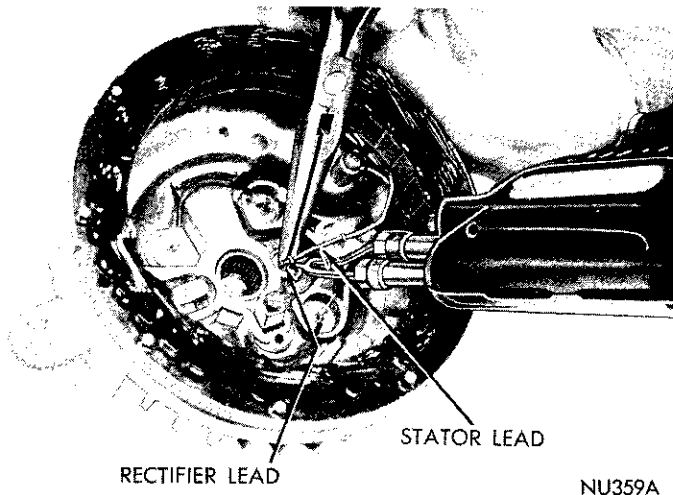
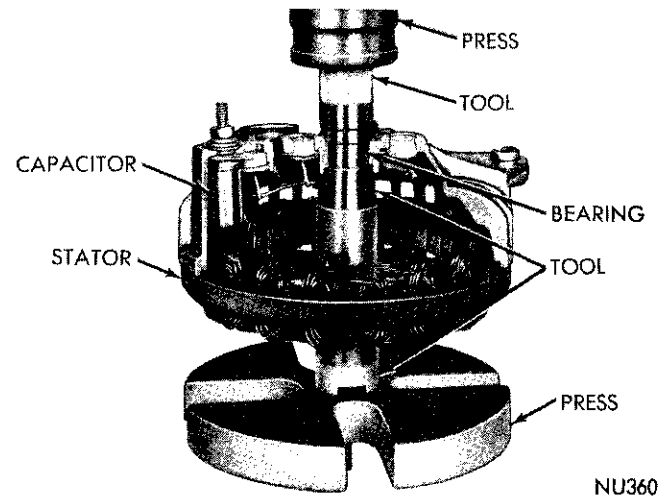
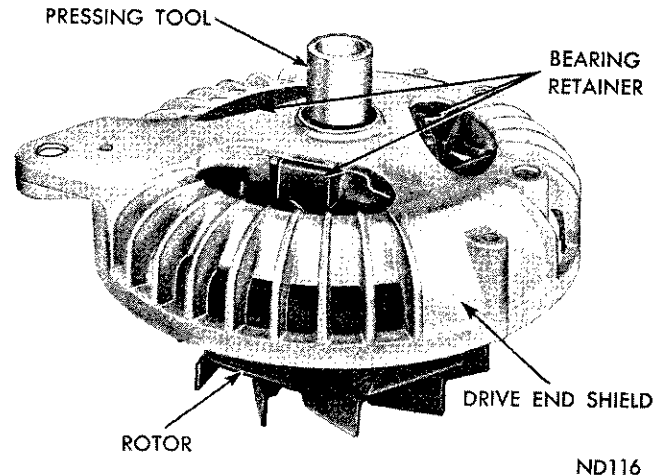

Fig. 29—Soldering Rectifier and Stator Leads
Fig. 30—Installing Rectifier End Shield Bearing
Fig. 31—Installing Drive End Shield Bearing
(4) Clean the leads and mate stator lead with rectifier wire and bend the loop snugly around stator lead to provide a good electrical and mechanical connection. Solder wires with resin core solder. Hold rectifier lead wire with pliers just below the joint while soldering (Fig. 29). Pliers will absorb heat from the soldering operation and protect rectifier. **After soldering, quickly cool soldered connection; touch a dampened cloth against it. This will aid in forming a solid joint.**
(5) After soldering, stator leads must be pushed down into the slots cast into the end shield and cemented with Cement Part Number 2299314 or equivalent to protect the leads against possible interference with the rotor fans. Test each replacement rectifier to make certain rectifier was not damaged by the soldering or pressing operations.
(6) Support end shield on Tool C-3925 so that notches in the support tool will clear the raised section of the heat sink and press the bearing into position with Tool SP-3381 (Fig. 30), until bottomed on support tool. **New bearings are pre-lubricated, additional lubrication is not required.**
(7) Insert drive end bearing in drive end shield and install bearing retainer plate to hold bearing in place.
(8) Position bearing and drive end shield on rotor shaft and, while supporting base of rotor shaft, press bearing and shield into position on rotor shaft with arbor press and Tool C-3858 (Fig. 31).